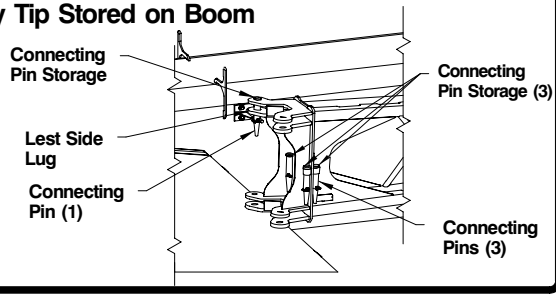

Figure 4–20
16. If the fly tip is stored on the side of the boom, install the hitch pin (1) through the storage bracket on the fly tip section and the storage bracket on the fly center section and secure the hitch pin. Refer to Figure 4–19.
17. Remove two fly base connecting pivot pins (1) from the right side of the boom. Refer to Figure 4–15. Store pins and keepers in storage rings (6) on the rear of the fly base section (8).
2. Check that the offset connecting pins (2) are installed in the 2° offset position. Refer to Figure 4–16. If necessary change the fly offset to the 2° position. Refer to "Changing The 10 Ft, 31–55 Ft Fly Offset Angle" in this Section of this Operator's Manual for detailed instructions.
- a. Disconnect plug assembly from fly base and connect it to the jumper assembly on the main boom head. Refer to Figure 4–3. Ensure all necessary anti-two block connections are disconnected.
6. Remove wire rope guards from fly tip head sheave, fly center deflector sheave, fly base deflector sheave, boom head sheaves, and boom deflector sheave. Refer to Figure 4–15. Remove the winch wire rope and lay it aside. Install wire rope guards at all sheaves for storage.
9. Remove the bottom and then the top fly tip connecting pins (21) on the left side of the fly tip section (20). Refer to Figure 4–15. To ease pin removal, relieve the loading on the pins by pushing the fly tip from side to side. Store pins and keepers in the storage location (22) on the rear of the fly tip section.
11. Using the hand line attached to the fly tip section, slowly swing the fly tip section around to the right side of the fly center section. Refer to Figure 4–8.
12. Align the storage bracket on the fly tip section with the storage bracket on the fly center section. Refer to Figure 4–19. Install the hitch pin (1) through the storage brackets and secure the hitch pin.
13. Remove the bottom left fly base connecting pin on the left side of the fly using the t-handle to assist in relieving the load on the pin. Back off the t-handle until at least a 1/2 in (1.3cm) clearance from the fly lug is obtained. Remove the top left fly base connecting pin. Store connecting pins in the storage holes (14) on the boom head machinery cross shafts (2) on the left side of the boom to prevent the shafts from rotating. Refer to Figure 4–15.
15. Remove the inside bottom right fly base connecting pin on the right side of the fly. To reduce loading and ease pin removal, push the fly slightly right or left. Refer to Figure 4–15. Remove the inside top right fly base connecting pin on the right side of the fly. To reduce loading and ease pin removal push the fly slightly left or right. Store the two pins and keepers in the storage rings (6) on the right rear of the fly base section (8).
17. Use the hand line attached to the center section and slowly swing the fly base and center sections around to the right side of the boom. Slowly boom up to 50°. Refer to Figure 4–8.
19. Slowly fully retract the boom while maintaining 50° boom angle to slide the storage lug on the rear of the fly center into the slot on the rear storage bracket (12). Refer to Figure 4–17. At the same time, the bullet lug and the square lug on the fly center storage bracket should engage through the holes on the rear of the fly center section. Refer to Figure 4–19. Also the bullet lug on the fly base storage bracket on the boom base section should engage the fly base storage bracket on the fly base section. Refer to Figure 4–18.
20. Boom down low enough to reach retaining pins. Pull and rotate the fly center retaining pin (4). Refer to Figure 4–19. Push retaining pin to engage the pin through the square lug on the fly center storage bracket. Pull and rotate the 10 ft fly base retaining pin (3). Refer to Figure 4–18. Push retaining pin to engage the pin through the bullet lug on the 10 fly base storage bracket.
21. Remove two fly base connecting pivot pins (19) from the right side of the boom. Refer to Figure 4–17. Store pins and keepers in storage rings (13) on the rear of the 10 ft fly base section (9).
22. Install a fly tip connecting pin in the top left fly tip connecting lug. Refer to Figure 4–17 and Fly Tip Storage Label, Figure 4–20.
- If the fly center and/or the fly tip sections are stored on the boom, check that the fly center and/or fly tip section connecting pins are in the stored position. Refer to Figure 4–17, Figure 4–19, and Figure 4–20.
- Check that the offset connecting pins (2) are installed in the 2° offset position. Refer to Figure 4–16. If necessary change the fly offset to the 2° position. Refer to “Changing The 10 Ft, 31–55 Ft Fly Offset Angle ” in this Section of this Operator's Manual for detailed instructions.
- Remove two fly connecting pins from the storage rings on the rear of the fly base section. Install them through the fly base pivot lugs (19) on the right side of the boom. Refer to Figure 4–17. (Install the pins with the head on top and the keeper on the bottom.) Install the pin keepers.
- Pull the retaining pin to disengage the pin from the bullet lug on the 10 ft fly base storage bracket. Refer to Figure 4–18. Rotate and release the retaining pin to lock it in the disengaged position.
- Continue to lower the boom to 0° angle. Use the hand line attached to the fly base and swing the fly base around the boom head until the fly base lugs engage with the boom head machinery cross shafts on the left side of the boom. Refer to Figure 4–8.
- Remove the two connecting pins from the storage rings (13) on the rear of the fly base section and install them in the boom head machinery cross shafts (24) on the right side of the boom. Refer to Figure 4–17. Install the inside top right pin first. Swing the fly base to the left or right to get the pin to drop in the hole. Install the inside bottom right pin. Swing the fly base to the right or left to get the pin to drop in the hole. (Install the pins with the head on top and the keeper on the bottom.) Install the pin keepers.